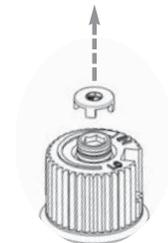

Fig. 1
- 11) Remove the black protection cap by hand from the hi/low knob (Fig.1).